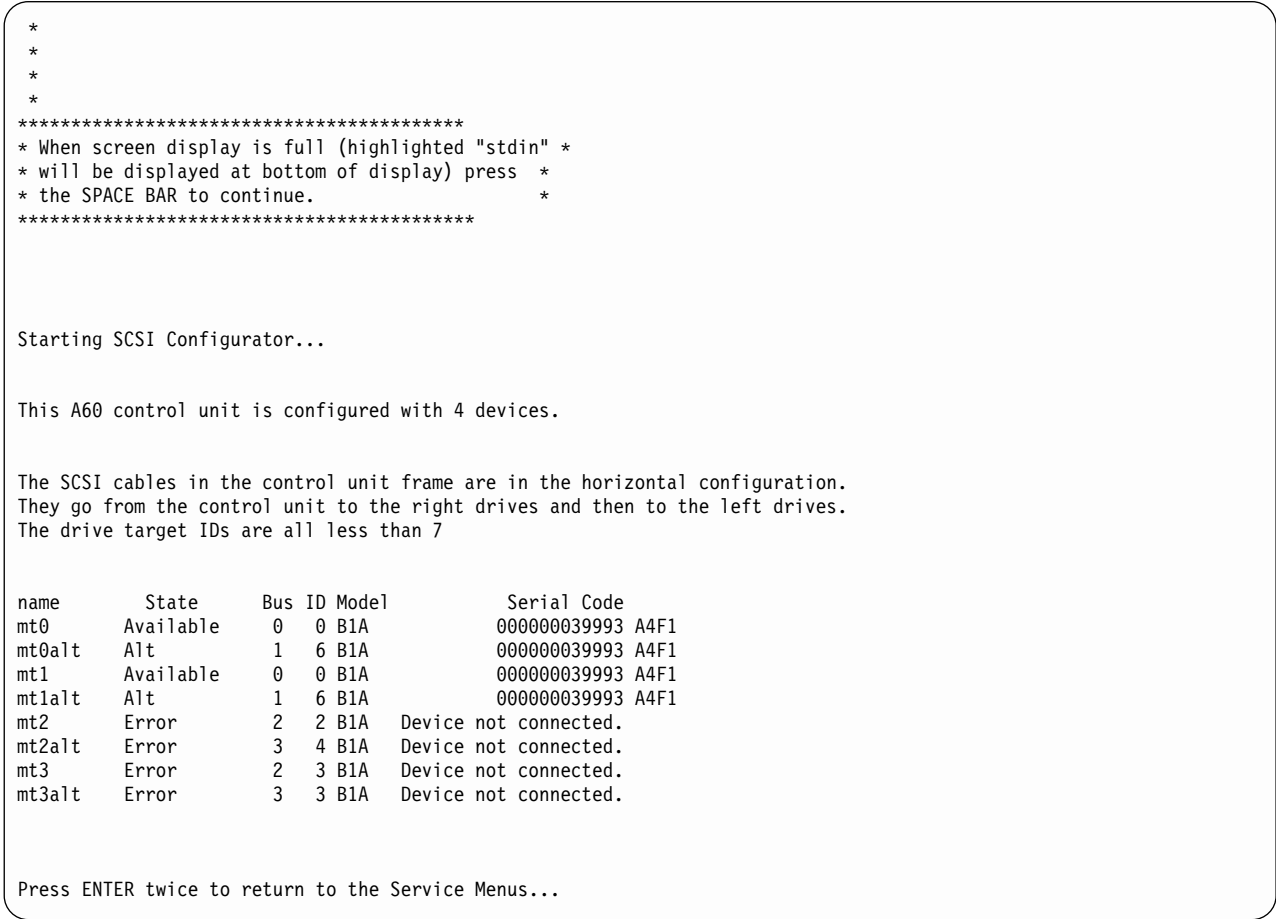

Figure 11-52. Example of the Run SCSI Configurator Results Screen
**Note:** Shown below, see Figure 11-52, Figure 11-53 on page 11-76, and Figure 11-54 on page 11-77 and the results screens that are displayed when choosing a configuration option.